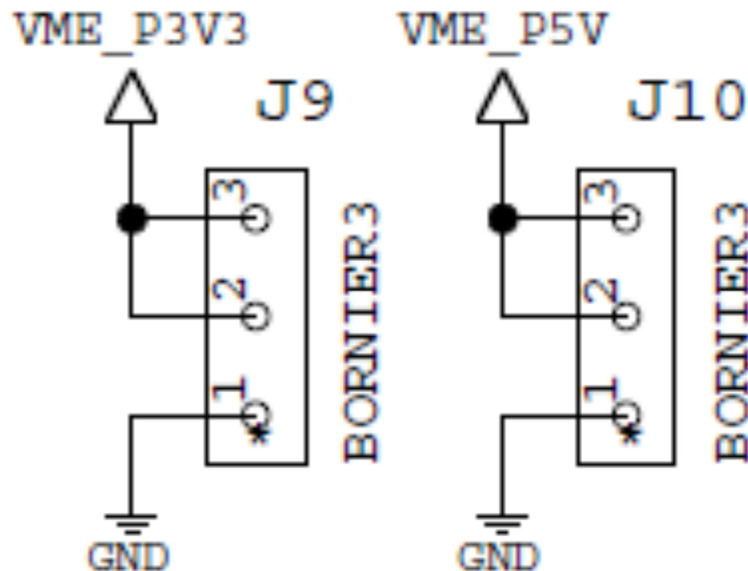

Fig.2: Power connectors of ODMB
- Connect +3.3V and +5V wires from PS to ODMB (Fig.2). While the ODMB is a 9U VME board, it can be used standalone, without any control software and VME crate;